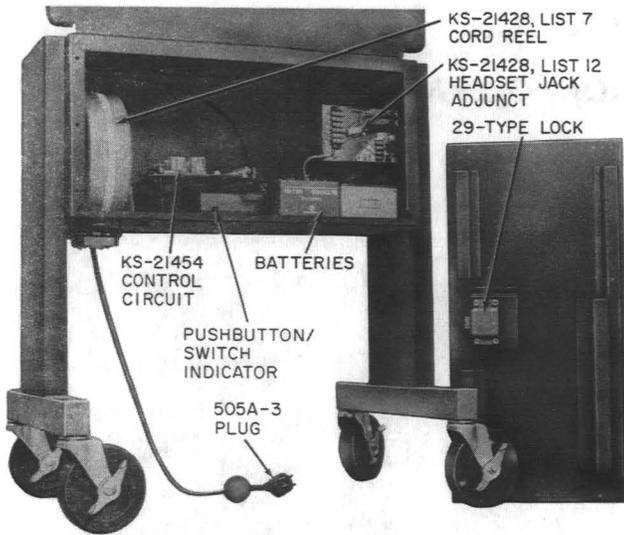

Fig. 2—KS-21428 Phonecart, Rear View
a switch indicator, and a 30-foot latching cord reel (Fig. 2). These components are described as follows:
5.02 The KS-8588 battery can be checked by operating the pushbutton switch indicator located on the bottom rear of the storage compartment (Fig. 2) as follows: